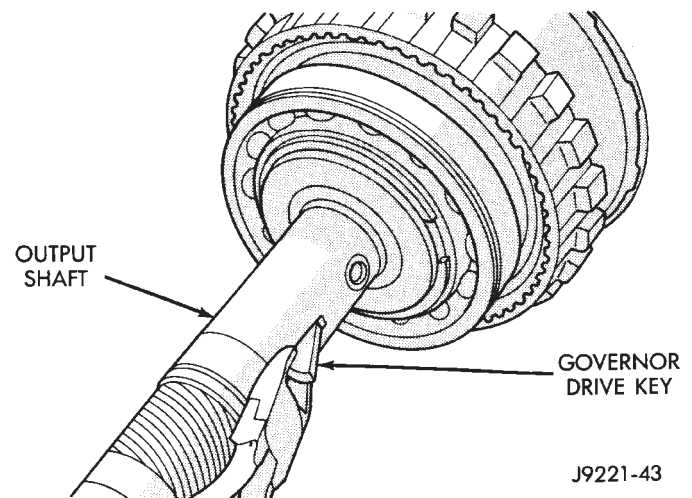

Fig. 19 Removing Governor Drive Key
- (4) Remove governor drive key (Fig. 19).